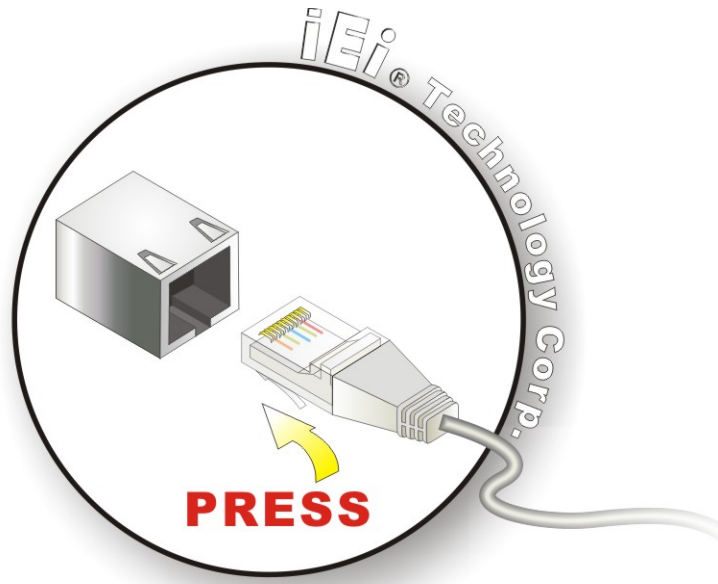

Figure 5-15: LAN Connection
Step 2: Align the connectors. Align the RJ-45 connector on the LAN cable with one of the RJ-45 connectors on the WSB-Q354. See **Figure 5-15**.